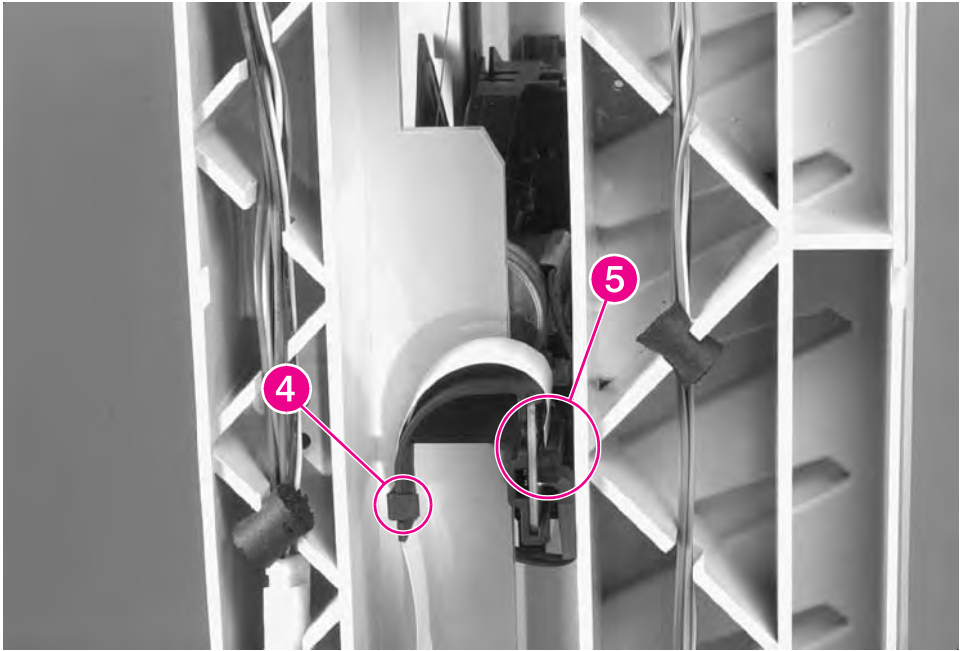

Figure 6-169 8-bin Mailbox Delivery Head Assembly (3 of 4)
- 6** On the back side of the 8-bin Mailbox, release the flat ribbon cable from the cable clip that secures the cable to the 8-bin Mailbox frame (Figure 6-169, callout 4), and gently disconnect the flat ribbon cable from the Delivery Head Assembly (callout 5).
- 5** Reconnect the flat ribbon cable to the Delivery Head Assembly, and secure the cable to the frame with the cable clip (Figure 6-169, callouts 4 and 5).